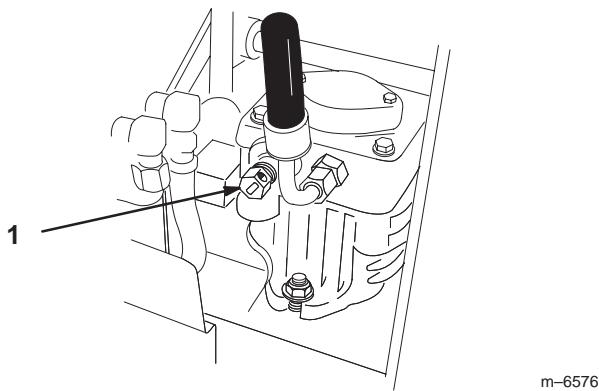

Figure 15
3. Open the by-pass valves, by turning them counter clockwise 1 to 2 turns, to push the machine. This allows hydraulic fluid to by-pass the pump and the wheels to turn (Fig. 15).